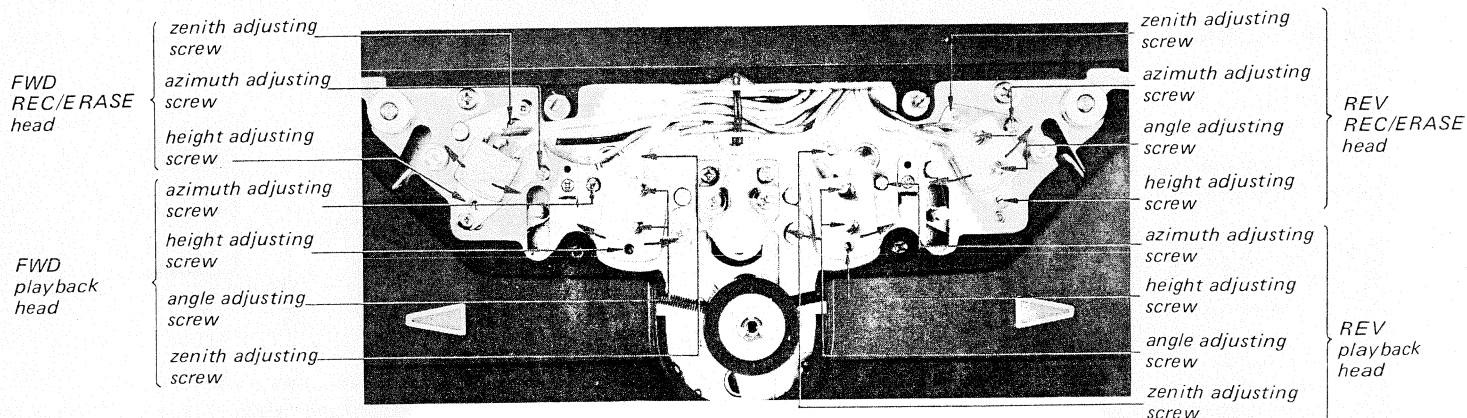

Fig. 3-26. Adjusting parts location (1)
| 6. Playback Head Azimuth and Angle Adjustment | <p>Test Setup:</p>  <p>Switch Setting:MONITOR switch ..... TAPE</p> <p>Specification:Screw position where the maximum output is obtained.</p> <p>Notes:(1) Before the adjustment, make sure that the head comes in contact with the tape normally in forward mode.</p> | <p>(1) Play back the SONY alignment tape J-19-A2 (12.5 kHz).</p> <p>(2) Adjust the playback head azimuth adjusting screw for the maximum output on the VTVM.</p> <p>Note: If the maximum value for both channels can not be obtained at the same angle of the screw, take the mid between the two angles and make sure that the difference between the output obtained by turning the screw from the maximum output position and the each maximum output is within 0.5 dB.</p> <p>(3) Loosen the playback head angle adjusting screws.</p> <p>(4) Slightly, hold the supply reel table by the hand.</p> <p>(5) Adjust by moving the playback head in the direction shown by the arrows (See Fig. 3-26) so that the level fluctuation is the least at the maximum output and the playback output does not increase more than 0.5 dB.</p> <p>(6) Repeat the above steps (1) and (2).</p> <p>(7) Apply lock paint to the azimuth and angle adjusting screws.</p>  |
| Record Head Azimuth and Angle Adjustment | <p>Specification:</p> <p>*Screw position where the maximum output is obtained.</p>   | <p>(4) Slightly, hold the supply reel table by the hand.</p> <p>(5) Make sure that the playback output does not increase more than 3 dB. If not, adjust by moving the record head in the direction shown by the arrows (See Fig. 3-26) so that the level fluctuation is the least at the maximum output.</p> <p>(6) Apply lock point to the azimuth and angle adjusting screws.</p>   |